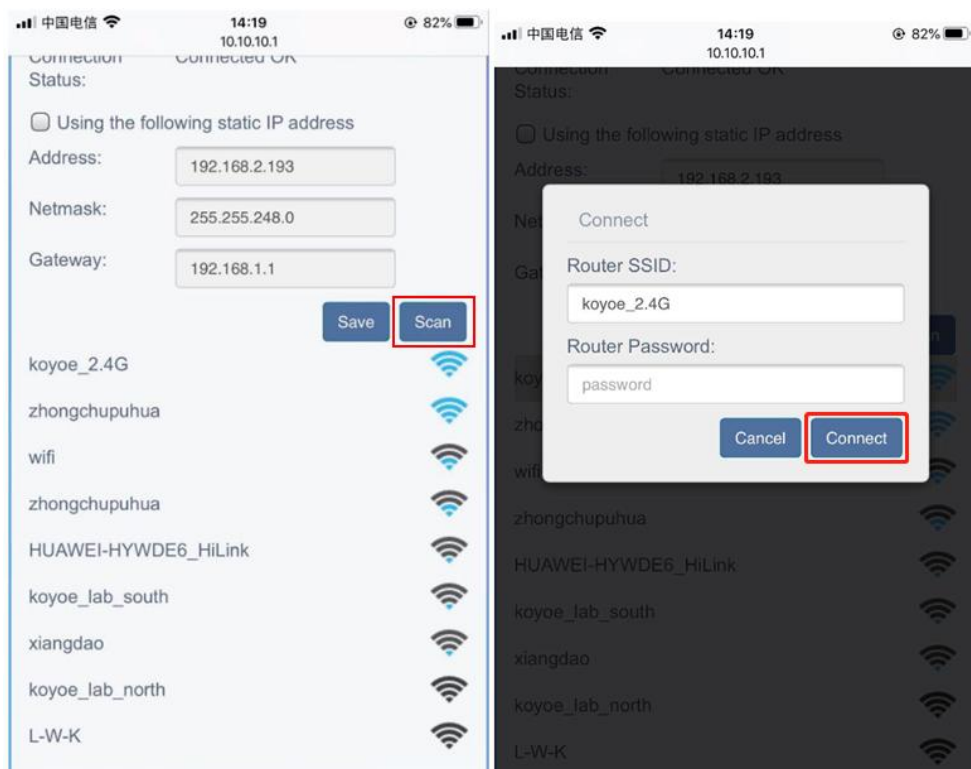

Figure 5-3
b. Click the "scan" button, and the router WiFi hotspot list will appear. Then select the WiFi hotspot, enter the password and click "connect". The method is shown in Fig. 5-3